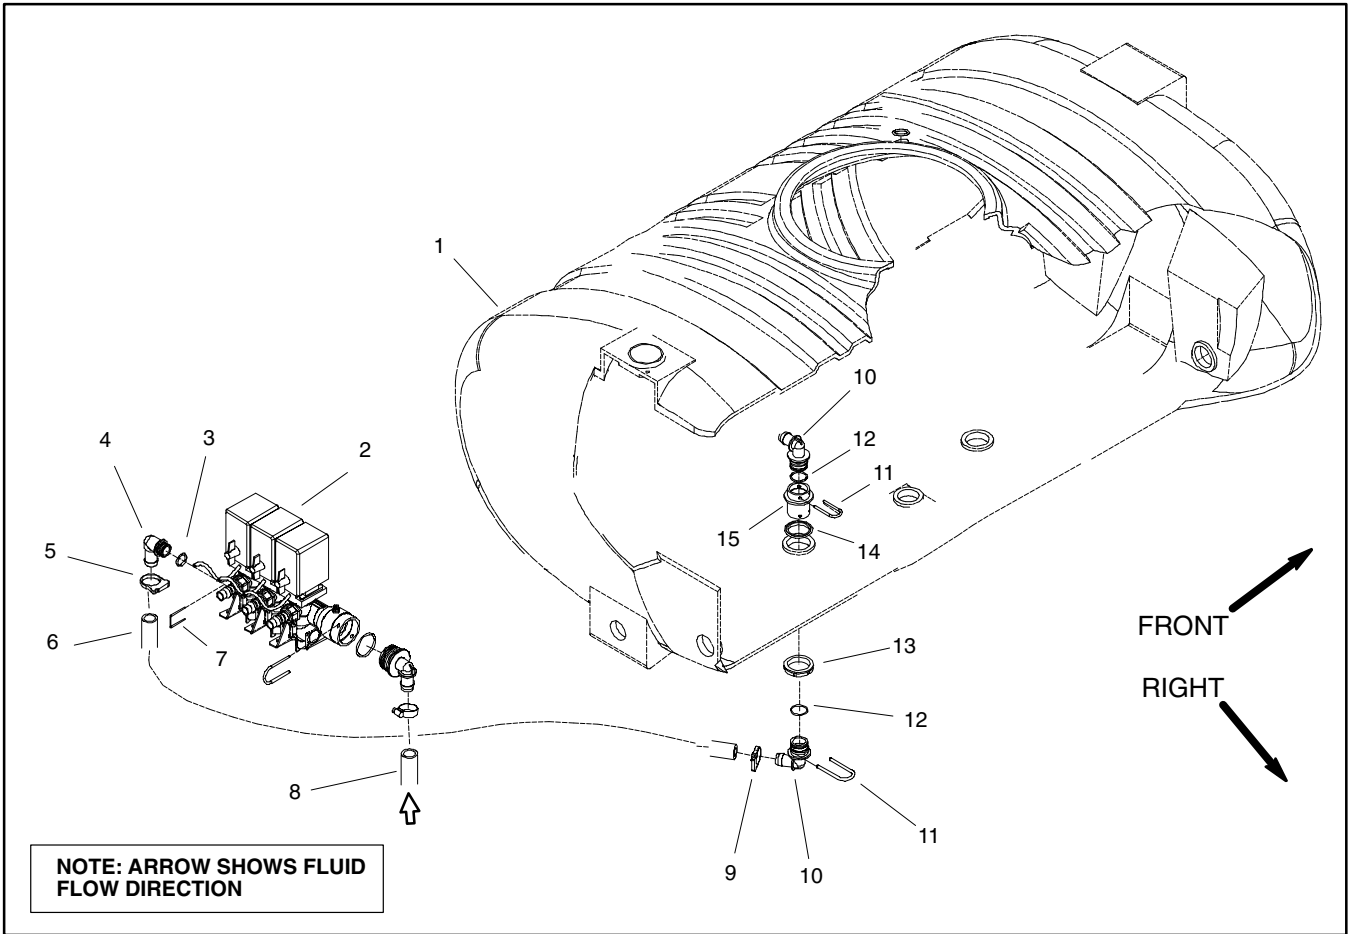

Figure 29
Disassembly (Fig. 29)
3. Disassemble boom bypass using Figure 29 as a guide. Discard all removed o-rings and gaskets.
Assembly (Fig. 29)
1. Assemble boom bypass using Figure 29 as a guide. Replace all removed o-rings and gaskets.